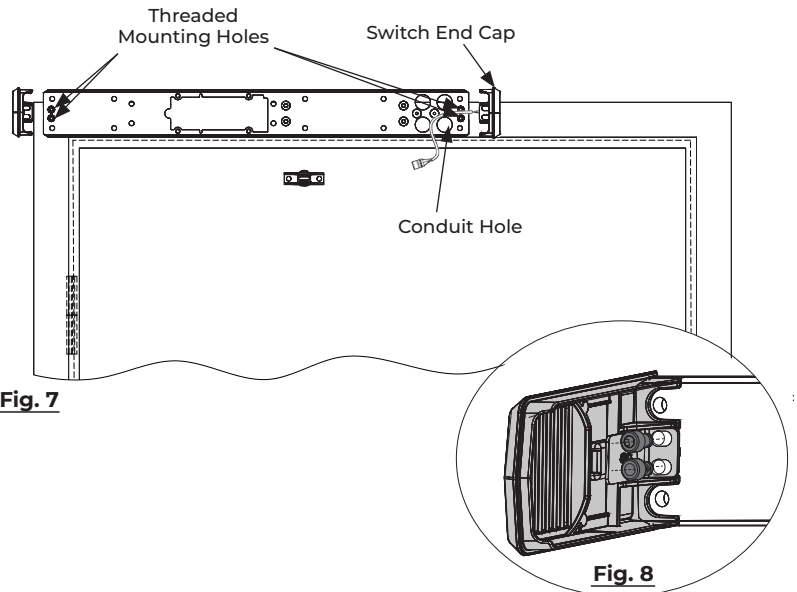

Fig. 7
1. Hold the endcap against the backplate so the flat edge is flush against the backplate's outer edge and the holes in the L-bracket align with the threaded mounting holes. (Fig. 7)